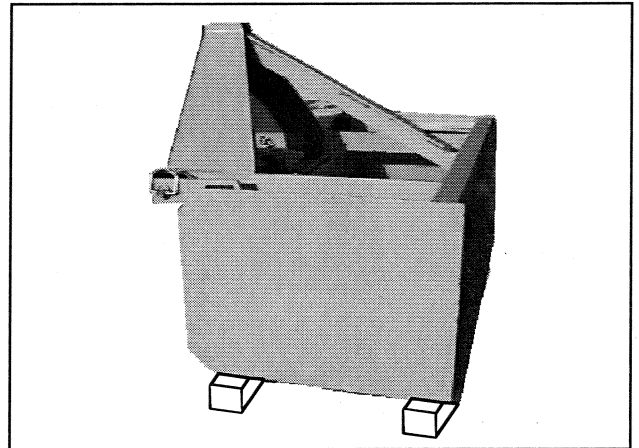

Figure 2. Box Blade Blocked Up
Refer to Figure 2 and block up box blade securely.
1. Place two 4" x 4" (10 cm x 10 cm) blocks under each side frame of the box blade as shown in Figure 2.
1. Block up machine (see Figure 2).
To service the box blade when attached to the tractor, it must be blocked up off the ground (see Figure 2).